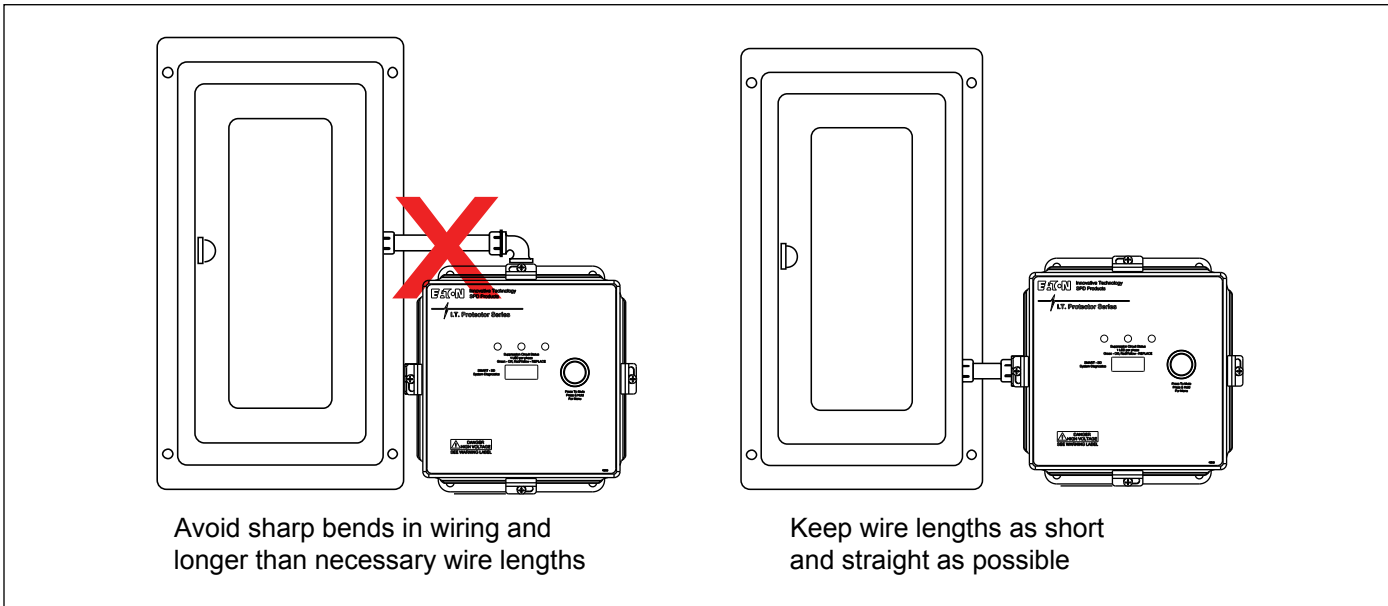

Figure 1. Conduit installation guidelines
- Avoid using 90-degree elbows and keep the conduit run as short and straight as possible (see **Figure 1**)